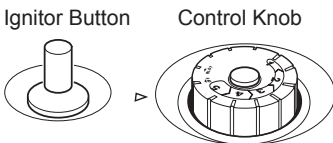

Figure 19 - Control Knob In The OFF Position (Piezo Ignitor Shown)
- Turn control knob counterclockwise  to the **PILOT** position. Press in control knob for five (5) seconds (see Figure 19).
- With control knob pressed in, push down and release ignitor button (see Figure 19). This will light pilot. The pilot is attached to the front of burner. The pilot can be seen through the glass panel. If needed, keep pressing ignitor button until pilot lights.